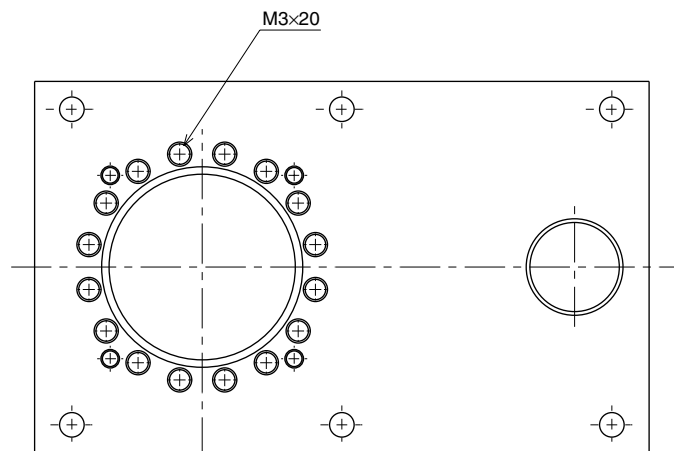

Fig. 5-5
- 13) Fit an O-ring (supplied with the harmonic drive) coated with harmonic grease into the O-ring groove on the new harmonic drive. Apply small amounts of "Screw Lock" to the bolts (M3×20L, 16 pieces) and tighten them to secure the harmonic drive from the backside of the base. (See Fig. 5-5.)